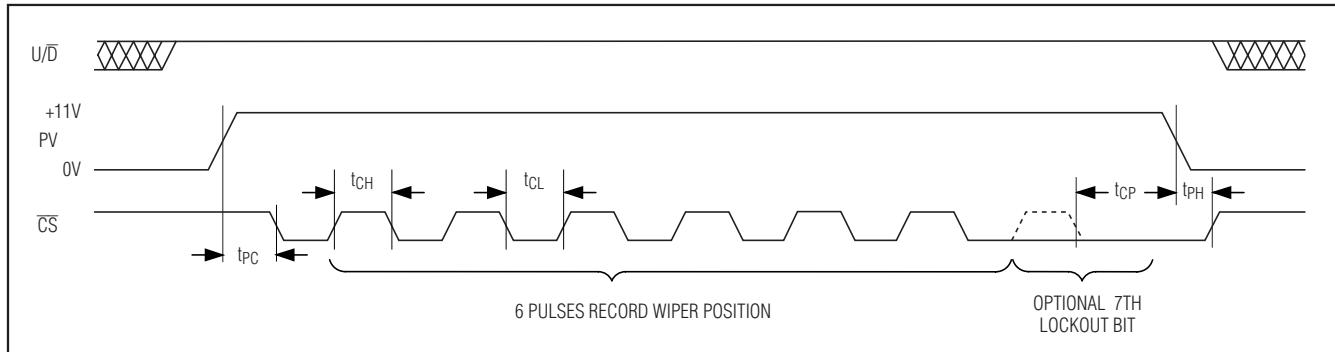

Figure 5. One-Time Program Mode, Serial-Interface Timing Diagram
Change the wiper's power-up position using the PV one-time programming sequence after power-up (see Figure 5). After setting the wiper to the desired power-up position, perform the following six-step sequence:
- 4b) Pulse CS high for seven cycles, consisting of CS starting low and going high for at least tCH and then low for at least tCL, to change the wiper power-up position and lock the wiper in that same position. The seventh CS pulse is labeled the optional lockout bit in Figure 5.